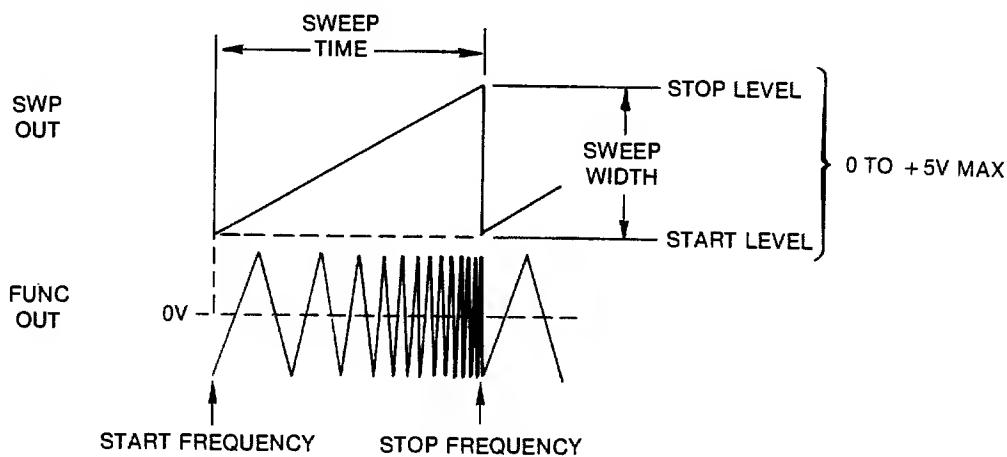

Figure 3-3. Sweep Time and Width
- 5 **Sweep Set Control** The Swp Set control, the inner knob of the concentric pair, sets the stop frequency in the sweep modes (see figure 3-3).
12 **Sweep Time Switch** The Sweep time button, when pushed, steps through the sweep time (.01, .1, 1, and 10 seconds). Sweep time is indicated by an annunciator arrow on the display. Frequency of the internal sweep ramp, the sweep rate, is governed by the Sweep time switch 12 (see figure 3-3).
Set as desired. Limit offset to prevent clipping (see figure 3-3).